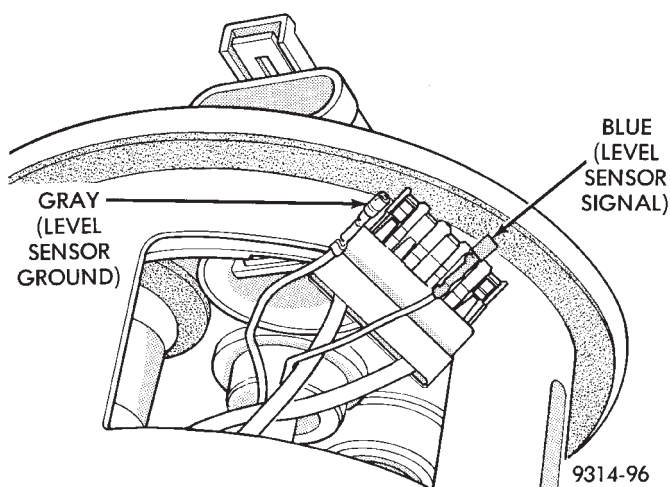

Fig. 12 Level Sensor Signal and Ground Wires
(3) Push level sensor signal and ground terminals up out of the connector (Fig. 12).